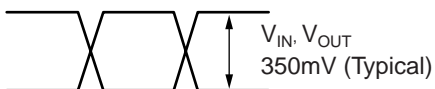

Figure 1c. Single-Ended Swing
8. See Figures 1c and 1d for V_{DIFF} definition.
- 12. See Figure 1c.